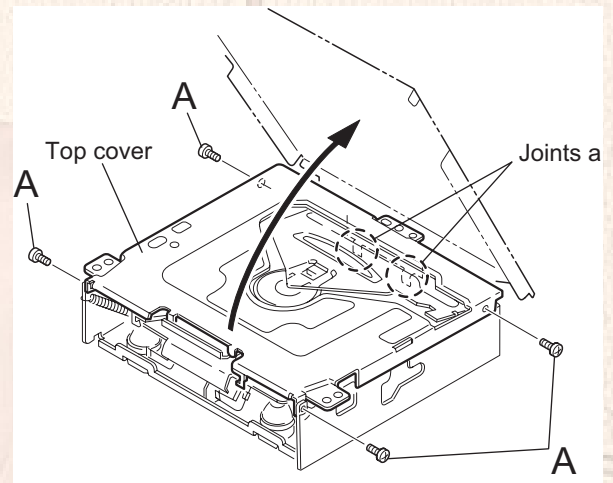

Fig.1
3.2.1 Removing the top cover (See Figs.1 and 2)